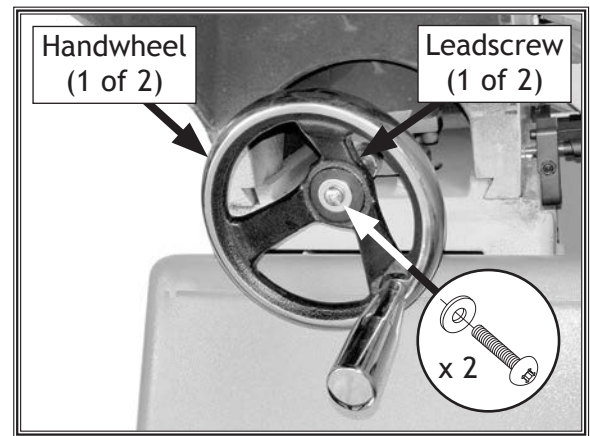

Figure 20. Handwheel secured to leadscrew (1 of 2).
20. Slide handwheels onto leadscrews, and secure with pre-installed $\frac{5}{16}$ "-18 x $\frac{1}{2}$ " Phillips head screws and 8.5 x 23 x 2mm fender washers (see **Figure 20**).